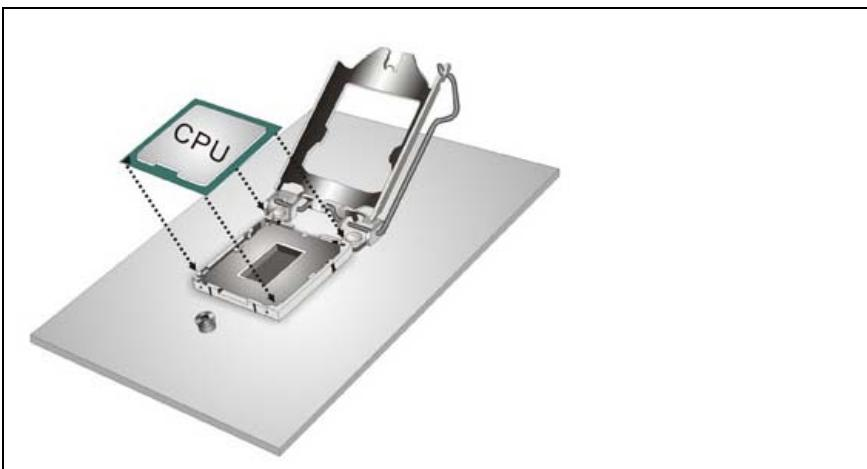

Figure 4-3: Insert the Socket LGA1155 CPU
Step 7: **Insert the CPU.** Gently insert the CPU into the socket. If the CPU pins are properly aligned, the CPU should slide into the CPU socket smoothly. See **Figure 4-3.**